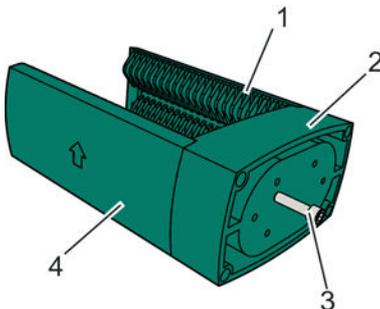

Fig. 116: Detaching the side wall
1. ➤ Unscrew the attachment bolts (Fig. 116/3) from the base (Fig. 116/2) and place to the side.
2. ➤ Place the side walls (Fig. 116/1, 4) and the base (Fig. 116/2) to the side with the assistance of a second person, if necessary.